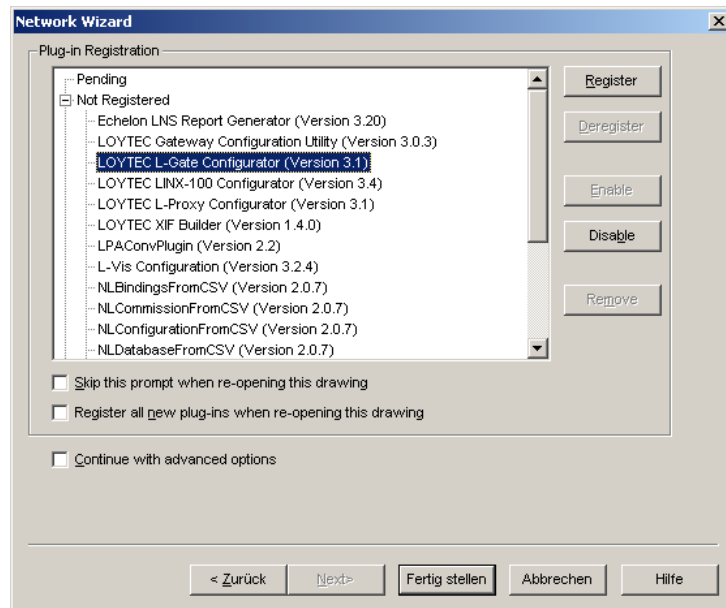

Figure 46: Select the Plug-in to be registered.
2. Click **Next** until the plug-in registration tab appears in the Network Wizard. Select the **LOYTEC L-Gate Configurator (Version X.Y)** from the list of **Not Registered** (see Figure 46).